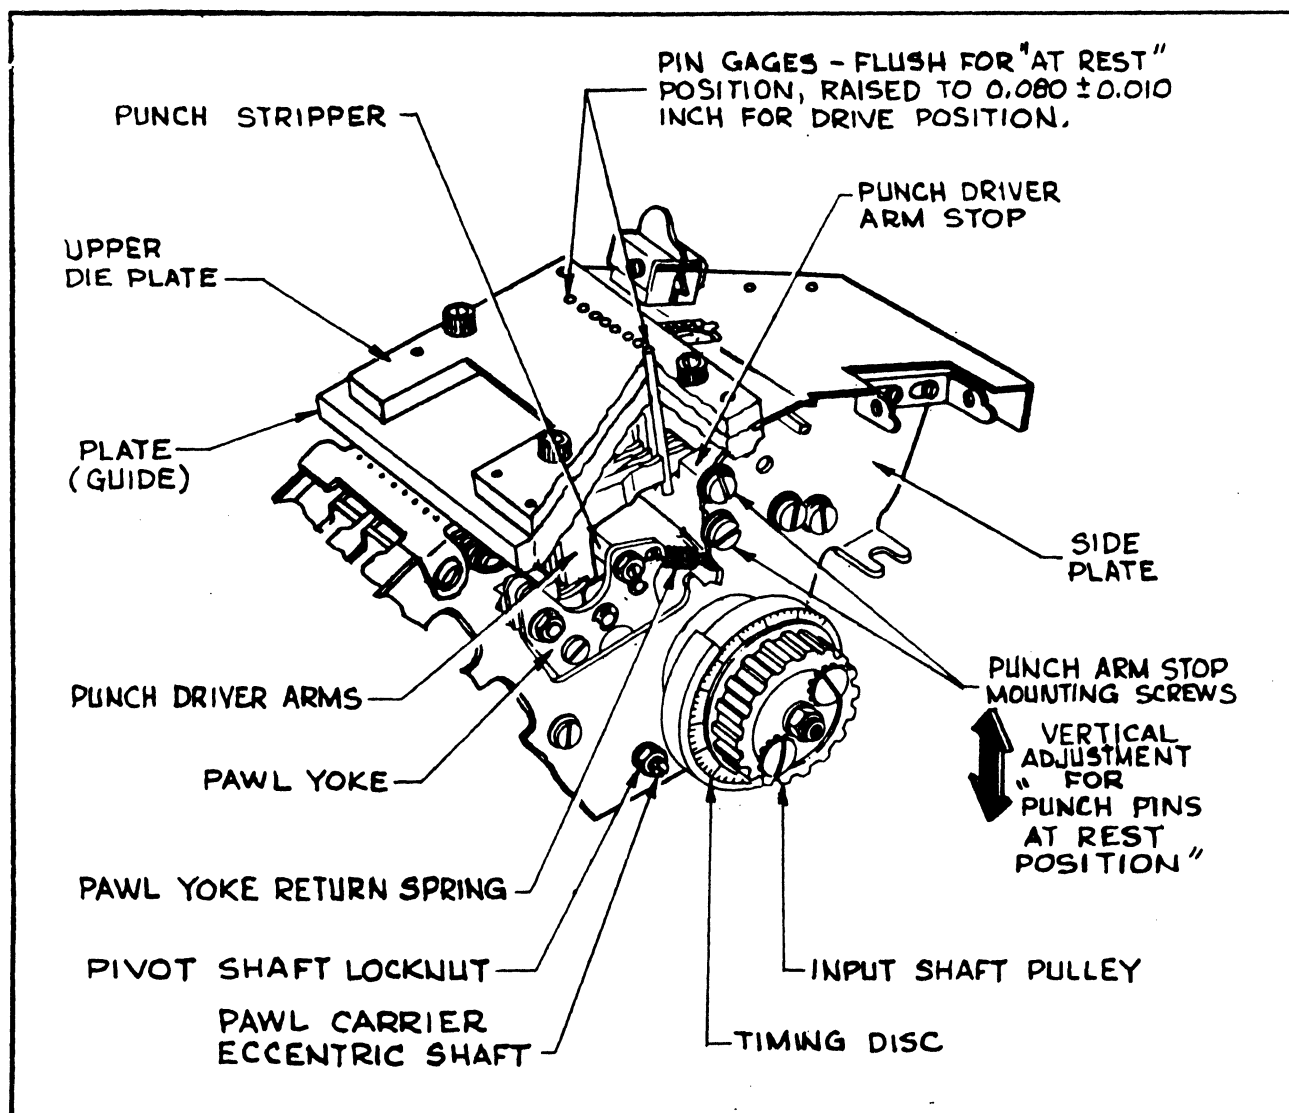

Figure 3.5 Punch Mechanism
When the yoke is farthest away from the solenoids, the two pawl yoke return springs, shown in Figure 3.5, pull the yoke fully to the end of the stroke. The springs reduce chatter of the yoke at high-speed operation,
5. Raise or lower the punch driver arm stop, see Figure 3.5, until gage pins are flush with the surface of the upper die plate. Then tighten the four mounting screws. Check the punch drive adjustment; see paragraph 3.4.3.
2. Insert punch pin gages in the #1 and #8 punch die holes. If the pawl yoke pivot point is correctly set, both pins must extend above the surface of the upper die plate by  $0.080 \pm 0.010$  inch; see Figure 3.5.
1. Check correct adjustments per paragraphs 3.2, 3.4.1 and 3.4.3. Set the timing dial to 127 degrees. This brings the stripper rod closest to the driver arms; see Figure 3.5. Nominal spacing between rod and driver arms should be 0.005 inch; however, accurate measurement may be difficult because of inaccessibility. Set-up by visual means with back-lighting is recommended. As a check, press the outer punch driver arms down by applying pressure at a point close to the driver arm return spring; see Figure 3.4. The driver arm should just barely move.
3. If the visual check of step 2 shows that the punch pin is not retracted sufficiently, loosen the locknut at each end of the stripper rod; see Figure 3.5. Hold the input shaft at 103 degrees. Slowly turn the rod toward the driver arms, then depress the #1 driver arm and check pin retraction. The punch pin must be below the platen surface.